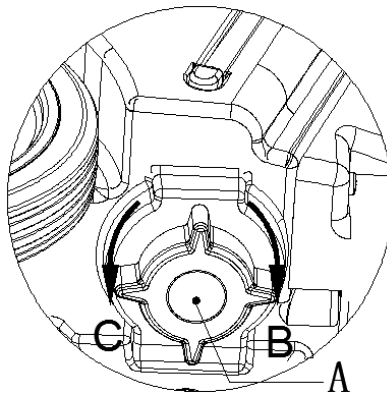

Figure 14
2. Unscrew the cap of clean water outlet (A, Figure 14) in Counterclockwise direction (C, Figure 14) to empty the solution tank.